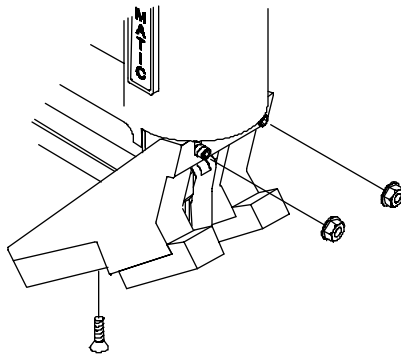
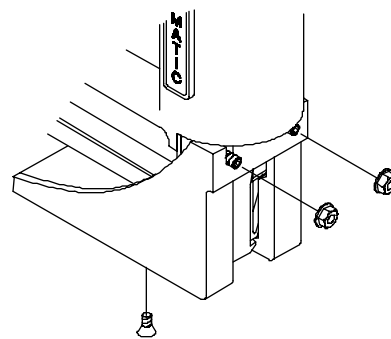

FIGURE 5
FIGURE 6
1. Install the Face Nailing Shoe on the **PORTAMATIC®** Nailer (See **Shoe Changing** Section Pg. 5 Figure 6).
10. Continue until four (4) rows of Flooring have been Face Nailed.
11. Remove the Face Nailing Shoe Accessory from the **PORTAMATIC®** Nailer and install the Tongue and Groove Nailing Shoe (See **Shoe Changing** Section Pg. 5 Figure 5).
14. Continue Step 11 until you have completely nailed all but the last five (5) rows of Flooring.
15. Remove the Tongue and Groove Nailing Shoe from the **PORTAMATIC** Nailer and install the Face Nailing Shoe (See **Shoe Changing** Section Pg. 5 Figure 6).
16. Install and nail in place the remaining five (5) rows of Flooring using the **PORTAMATIC®** Nailer with the Face Nailing Shoe installed.